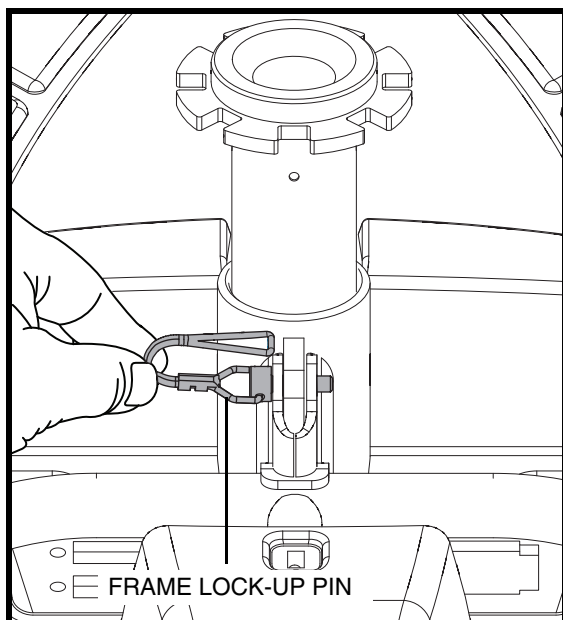

Figure 26. Frame Lock-Up Pin
2. Remove the frame lock-up pin. **See figure 26.**